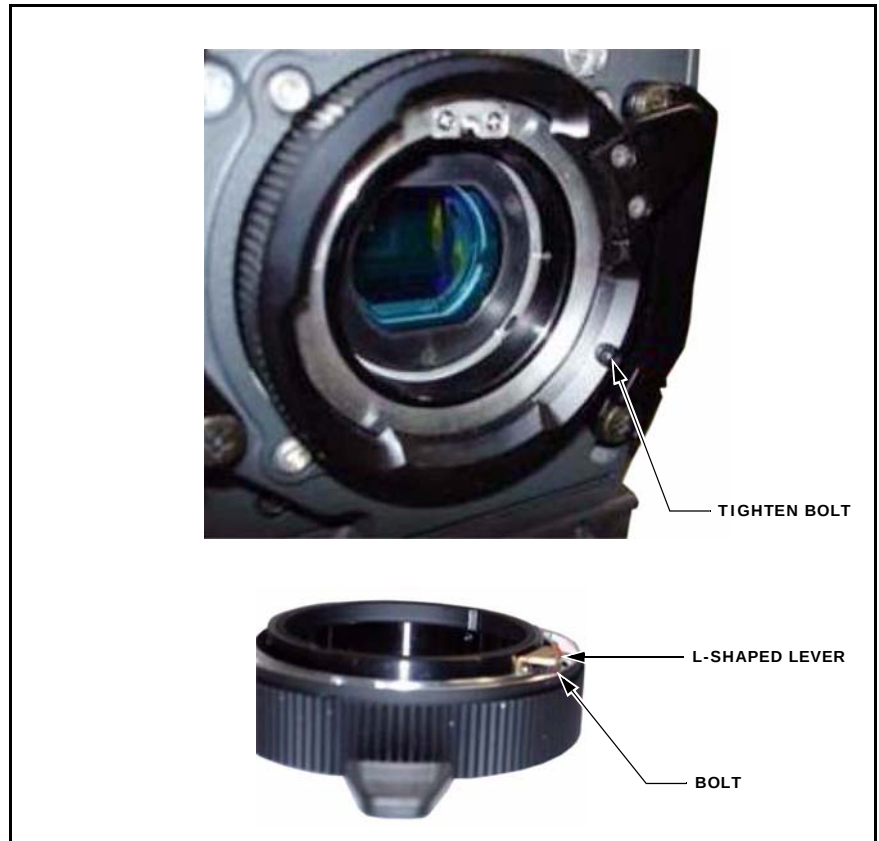

Figure 10
10. Tighten the black bolt completely without interfering with the L-shaped lever. (See Figure 10.)